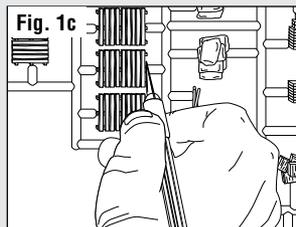

Fig. 1c
- Remove Details from sprue using a hobby knife (or flush cutting shears). (**Fig. 1c**) **NOTE:** Do not remove placement posts.